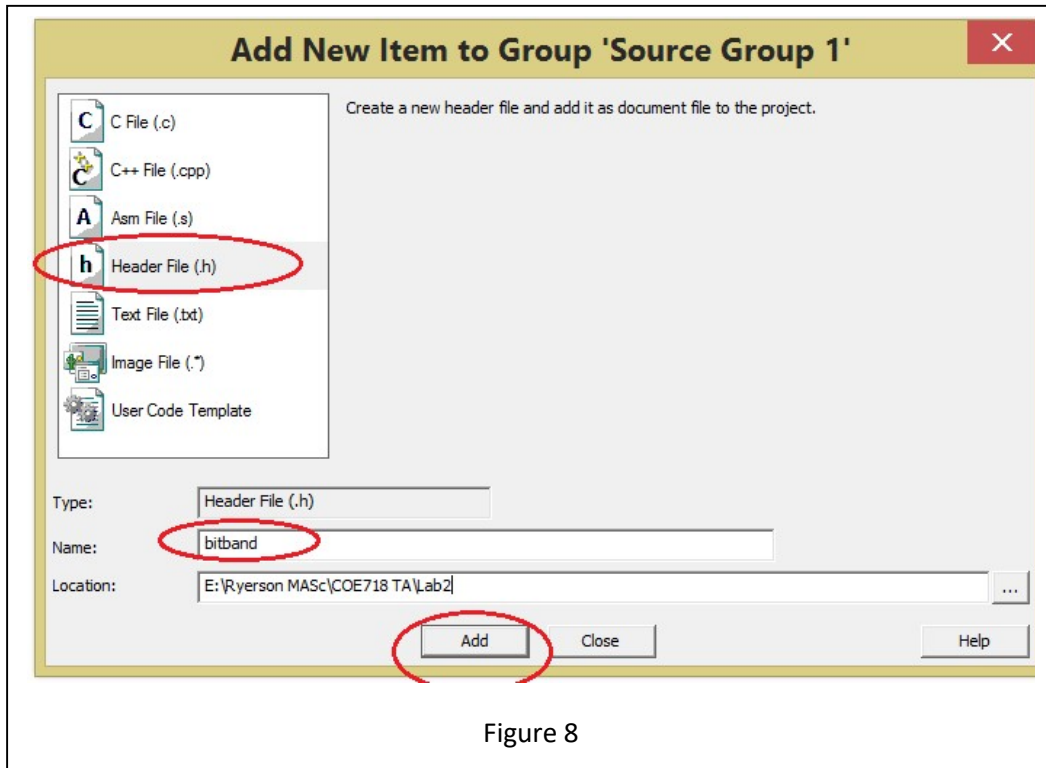

Figure 8
8. Repeat the Step 7, and this time select Header File (.h) name it 'bitband' click Add as shown in Figure 8. The file bitband.h will be added to your project directory.